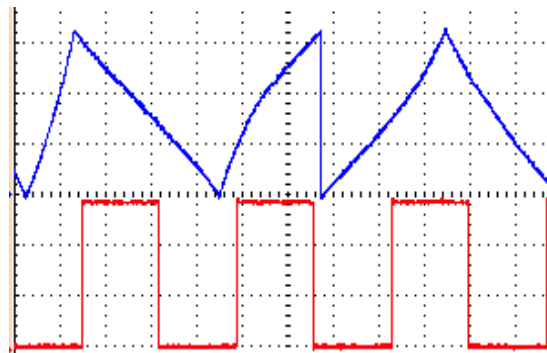

Figure 13b Async mode (Turning Skew knob in cycle mode)
- Using skew/div modulations to change the "async reset point": Patch the example above. Try turning Skew back and forth, as well as Div/Mult. Smooth, huh? Stop turning the knobs and notice how it's now starting at a different point relative to the metronome. The "reset point" has changed to accommodate your knob wigglings. If you were in sync mode, it would have snapped back to starting on the ping clock. But in Async mode, it can start anywhere. See *Figure 2 and Figure 13b*.